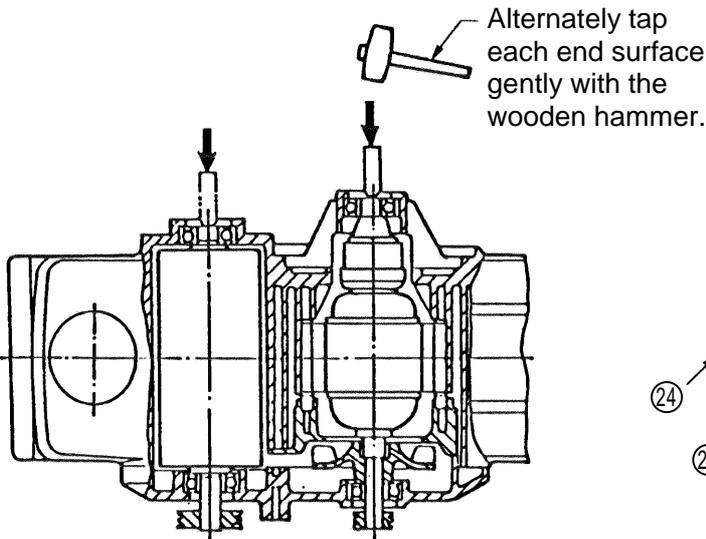

Fig. 6
(3) Removal of the Armature and Cutter Block: (Figs. 6 & 7)
- Loosen and remove the four D4 x 20 Tapping Screws (27) which fix the End Bracket (26).
- As illustrated in Fig. 6, alternately hold a plastic rod with a diameter of approximately 8 mm against the end surface of the shaft of the Armature (28) and the spindle of the Cutter Block (13), and alternately tap each of them gently with a wooden hammer to remove little by little the End Bracket (26), Armature (28) and Cutter Block (13) in a single body. The Fan Guide Ass'y (29) will also be removed at this time.